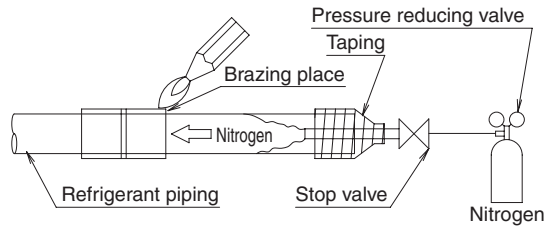

Fig. 12
- Before brazing refrigerant piping, have nitrogen flow through the refrigerant piping and substitute air with nitrogen (NOTE 1) (**Refer to Fig. 12**). Then, carry out brazing (NOTE 2).